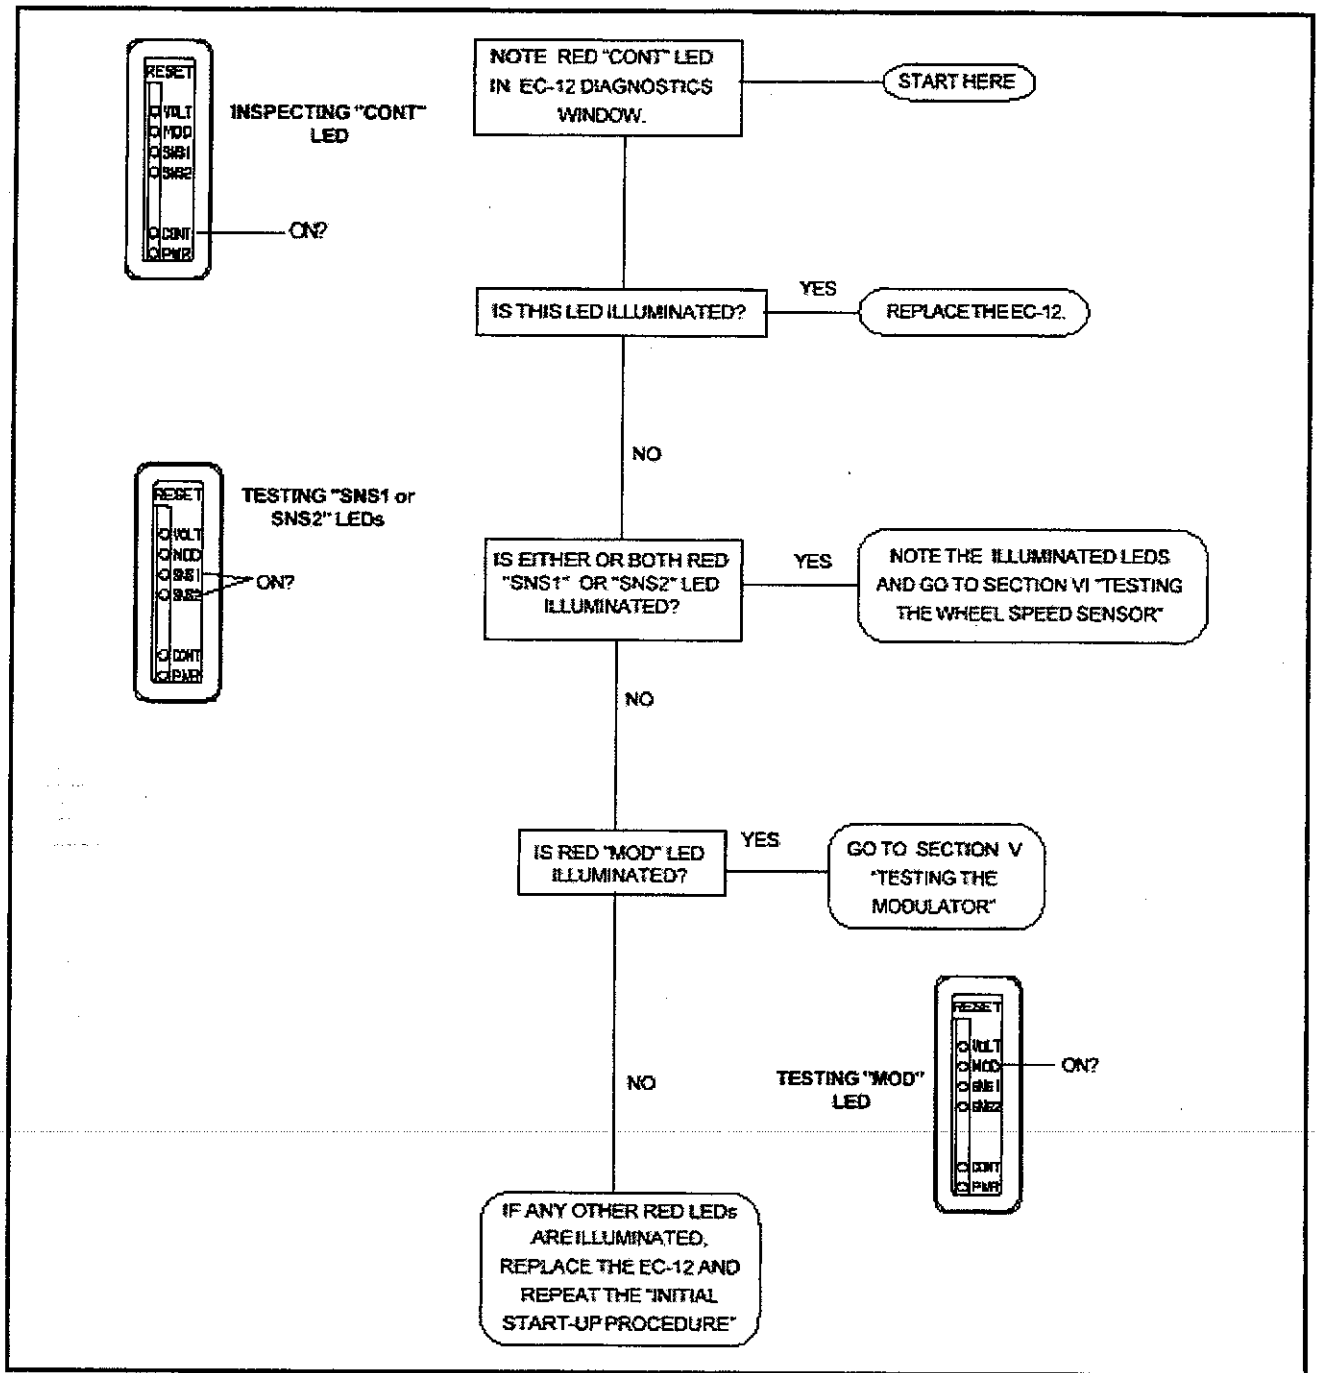

Figure 15—Inspection for Illuminated LED(s)
- See Figure 15—Inspection for Illuminated LED(s)